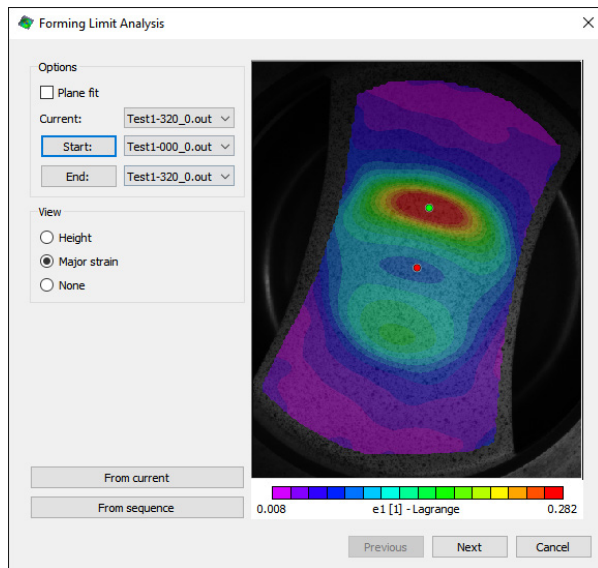
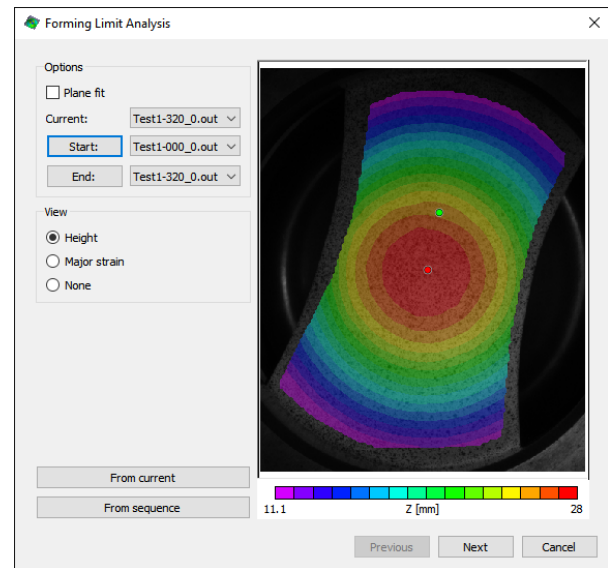

Figure 1.
Figure 2.
4. In the FLC dialog VIC-3D automatically displays the data from the last image in the sequence, and locates the peak major strain ϵ_1 (green point in figure 1), and the peak dome height Z value (red point in figure 2) in the image pair before failure.